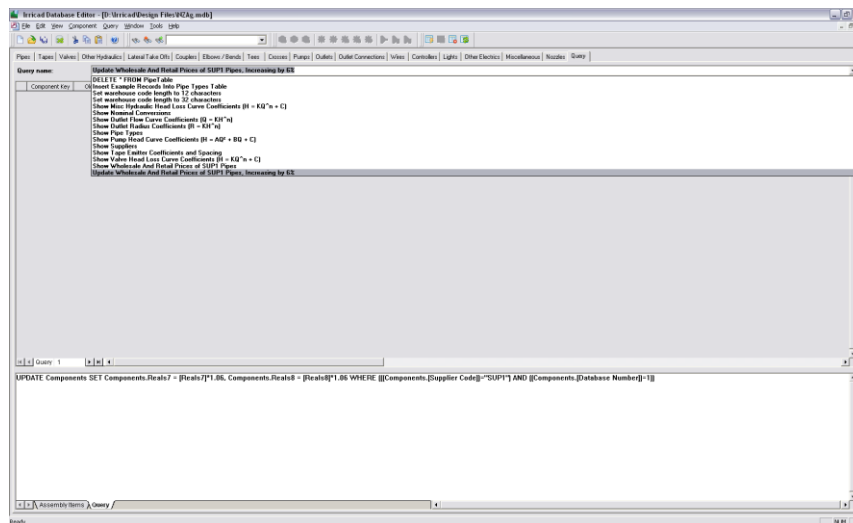

Figure 3-27
4. Once the query has been selected, the formula will be displayed in the lower field. See Figure 3-27.